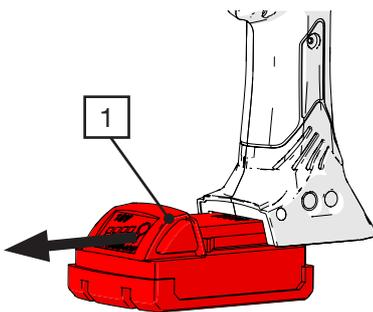

Fig. 5: Removing the battery
2. Remove the battery (Fig. 5/1) from the clamp pincers.